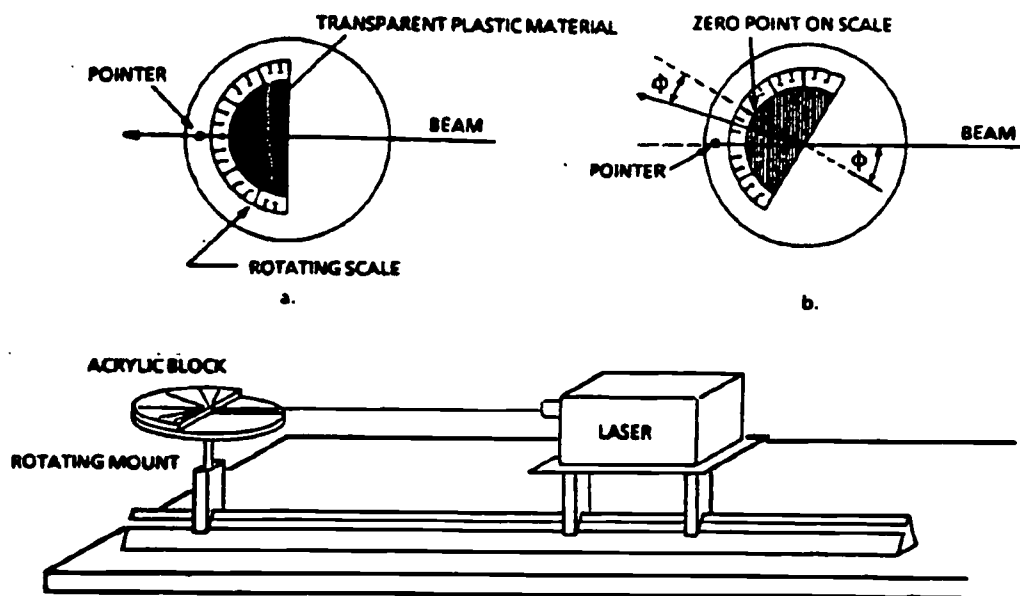

Figure 1
1. Set up the experimental apparatus as shown in Figure 1.